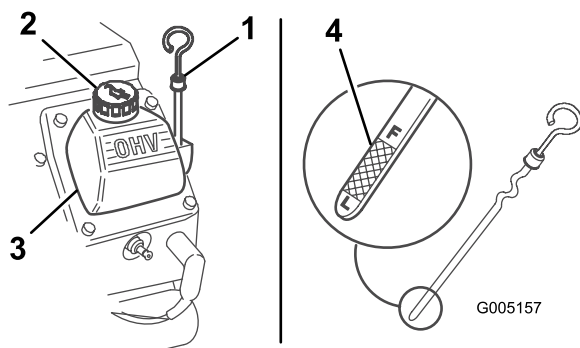

Figure 9
6. Pull the dipstick out and look at the end. The oil should be to the top of the upper limit range (Figure 9).